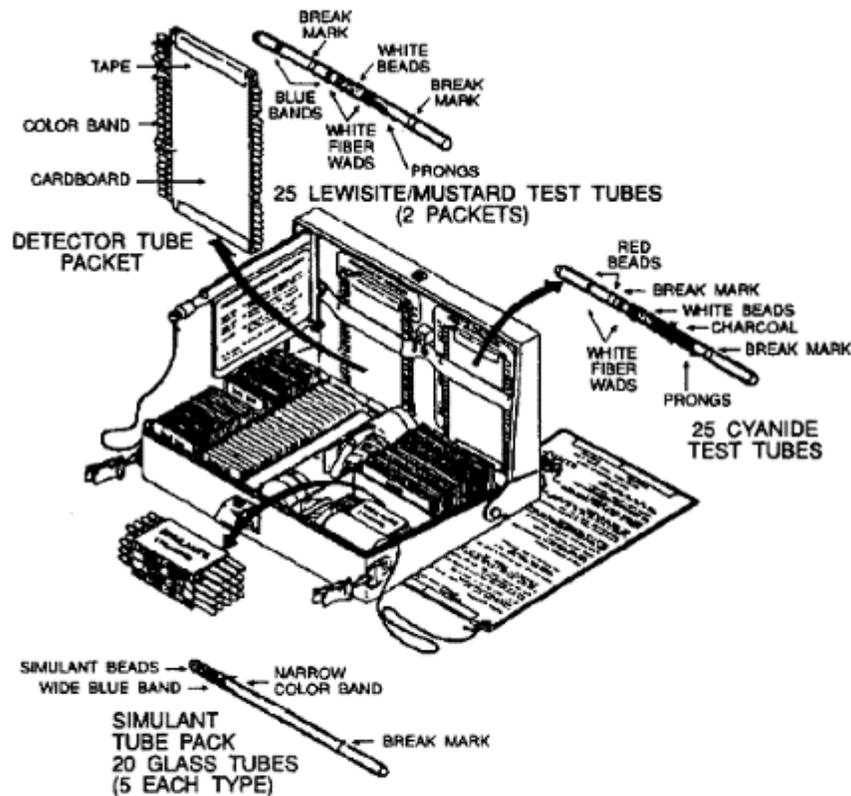

Figure 1-24. M272 water testing kit.
The M272 (Figure 1-24) kit will detect and identify dangerous levels of common chemical warfare (CW) agents in water sources. It can be used by non-chemical corps personnel who are required to collect and check any water source such as wells, lakes, rivers, and city water systems. The M272 is a lightweight kit that will detect and identify harmful amounts of CW agents when those are present in raw or treated water. See TM 3-6665-319-10 for further information.